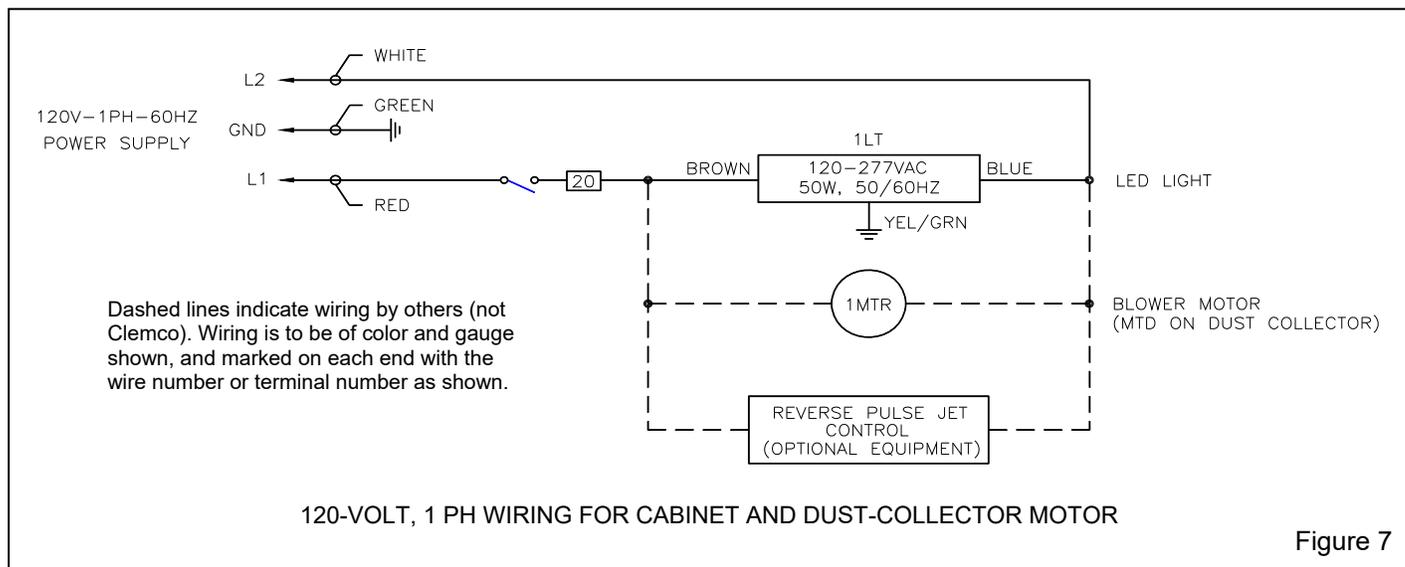

Figure 7
2.5.1.2 Refer to the wiring schematic in Figure 7 and wire the dust-collector motor, per instruction on the motor data plate, to the junction box mounted on the cabinet.
When wired, as noted in Figure 7, the dust-collector exhauster motor will start when the cabinet light switch is turned ON and stop when the switch is turned OFF.